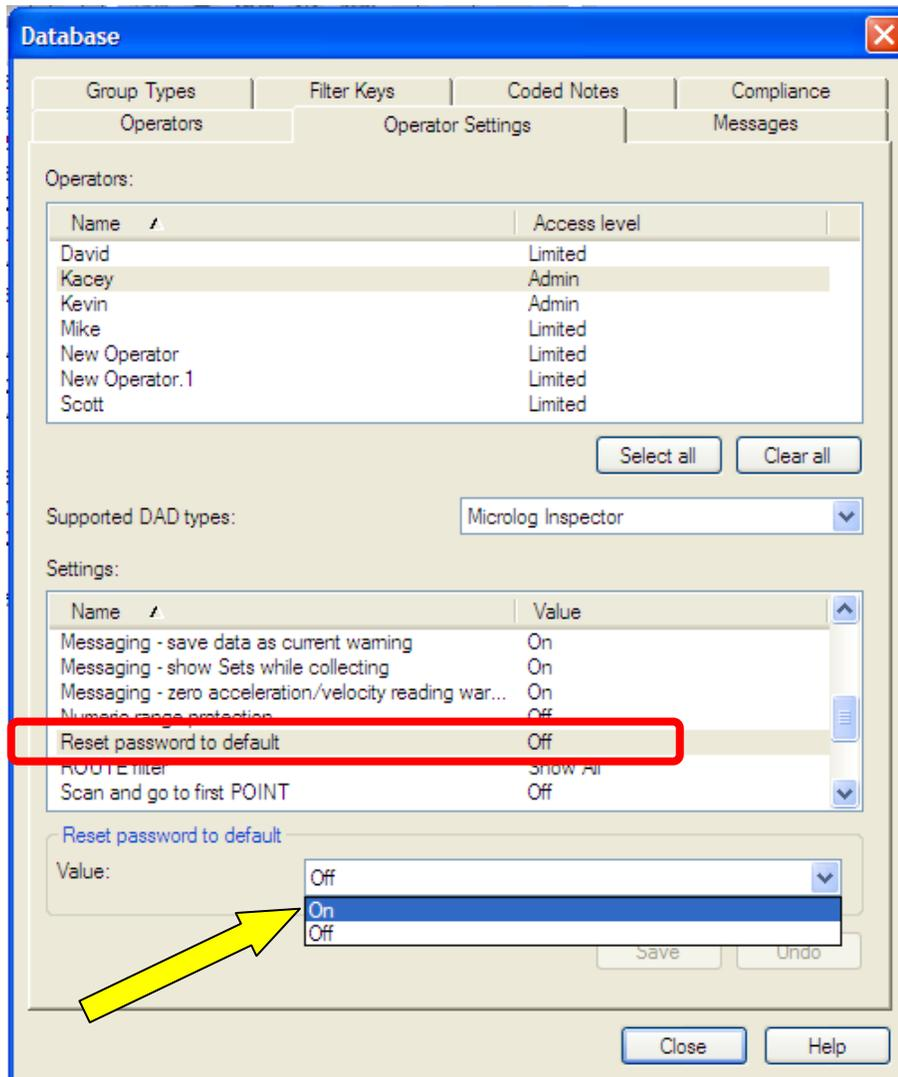

Figure 4. Reset password to default
- In the **Settings** window, highlight **Reset password to default**, and change the **Value** to **On**. [Figure 4]